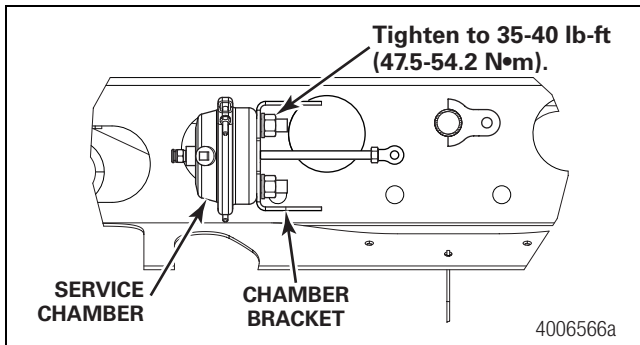

Figure 9
9. With the pull handle removed and lock pins fully extended, install the service chamber to the chamber bracket, using the fasteners supplied with the service chamber. Figure 9.